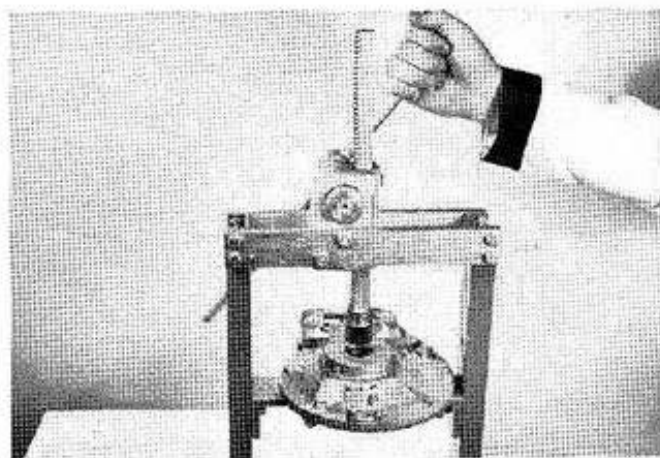

Figure 81. Backplate Seal Removal.
- b. Remove the six screws (B) that hold the backplate to the engine with a 3/8" socket.
- c. Position the backplate in an arbor press with the seal facing down. (See Figure 81.) Applying pressure to the bearing will force the seal and bearing out of the cavity.